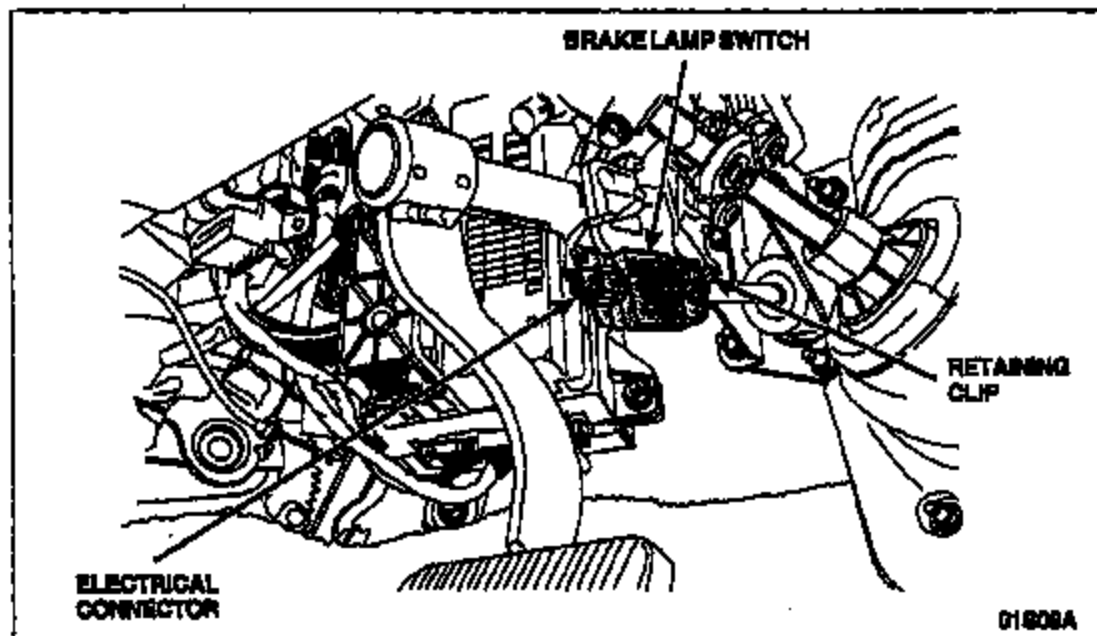

FIGURE 1
3. Disconnect the electrical connector from the brake lamp switch. See Figure 1.
4. Remove the retaining clip, then remove and discard the brake lamp switch. See Figure 1.